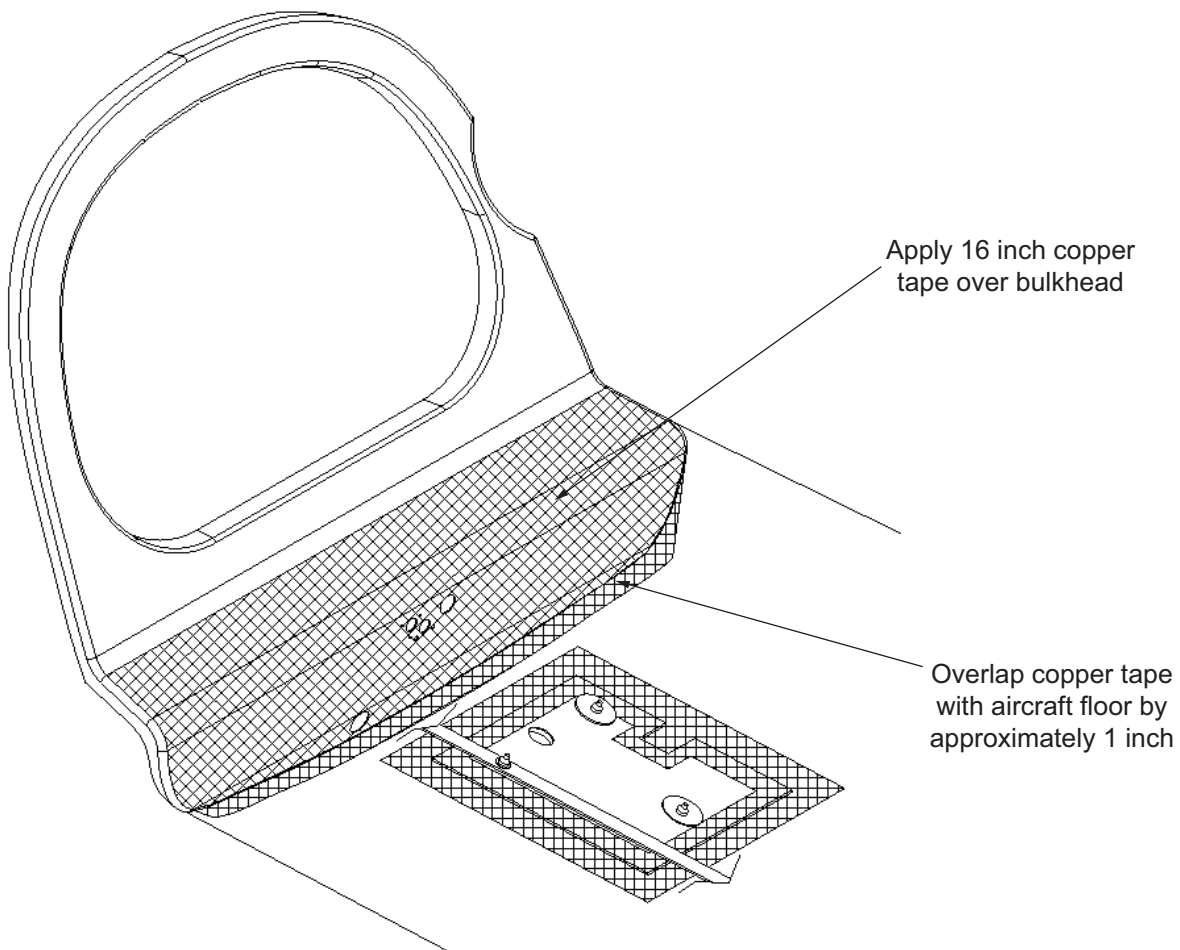

Figure 6
- 10.2.7 Apply 16" copper tape (P/N 1181-16) to the bulkhead. Overlap with fuselage shell aluminum foil by approximately 1 inch. See Figure 6.